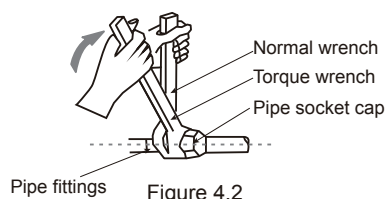

Figure 4.2
- Use two wrenches when you install or dismantle the piping, a common wrench and a torque wrench. See Figure 4.2.